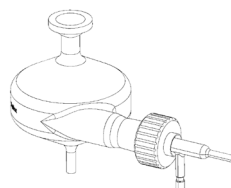

Figure 2. Nebulizer installation
- 2 Fully insert the nebulizer into the torque-controlled adaptor and secure it in place by gently turning clockwise the nebulizer adaptor until you hear a "click" (Fig. 2).